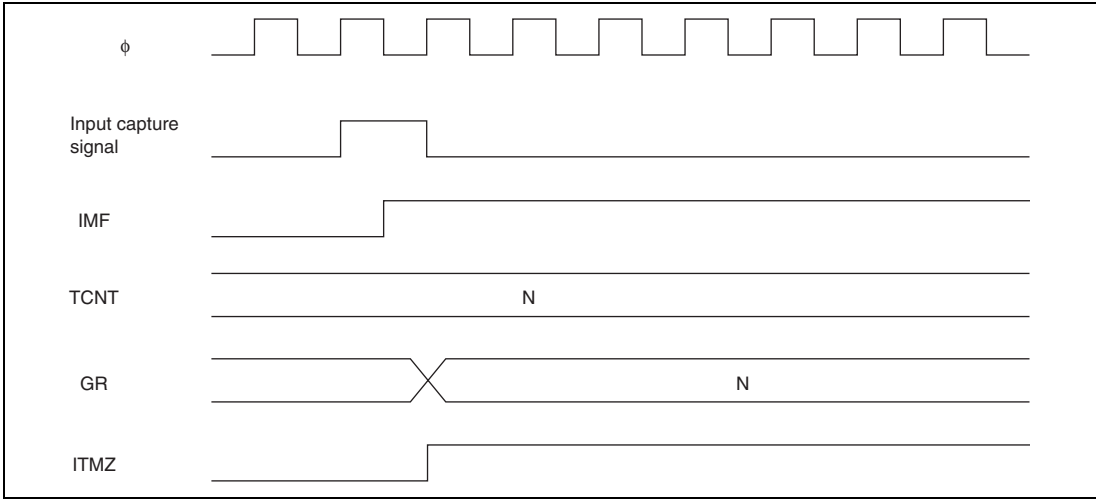

Figure 13.49 IMF Flag Set Timing at Input Capture
- 2. IMF Flag Set Timing at Input Capture: When an input capture signal is generated, the IMF flag is set to 1 and the value of TCNT is simultaneously transferred to corresponding GR. Figure 13.49 shows the timing.